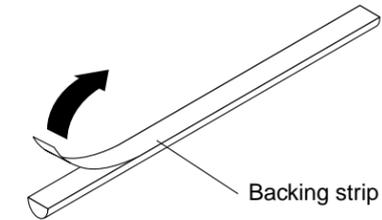

FIGURE 3 Removing the Backing Strip From the Gasket
5. Peel the backing strip off the top of the gasket to expose the adhesive surface (FIGURE 3).